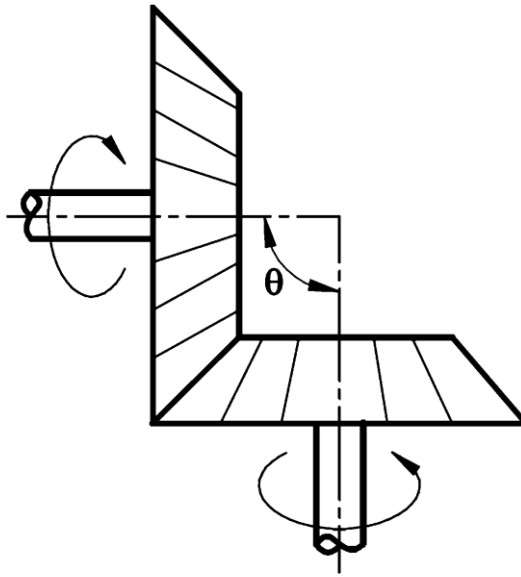

Fig. 4.8 Bevel gears
- Bevel gears are most commonly used for transmitting power between intersecting shafts. Fig. 4.8 bevel gears.